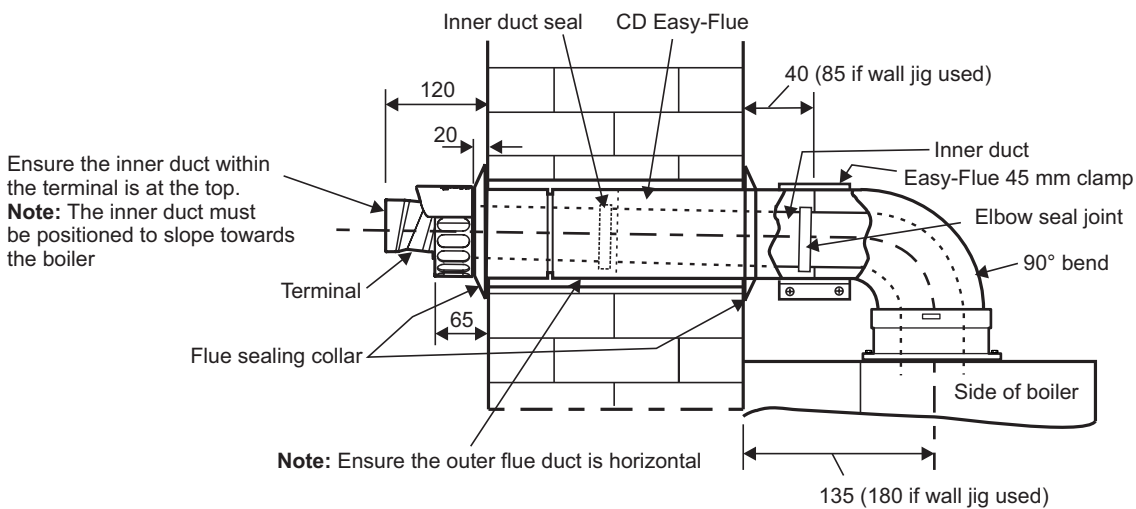

Fig. 5.11 - Rear flue
Note: Check the flue terminal protrudes 120 mm out of the wall and the inner duct of the terminal is positioned correctly (see Fig. 5.11).
5.9 EXTENDING THE FLUE - Fig. 5.11
Note: Check the flue terminal protrudes 120 mm out of the wall and that the inner duct of the terminal is positioned correctly, i.e. the inner duct within the terminal is at the top. See Fig. 5.11.